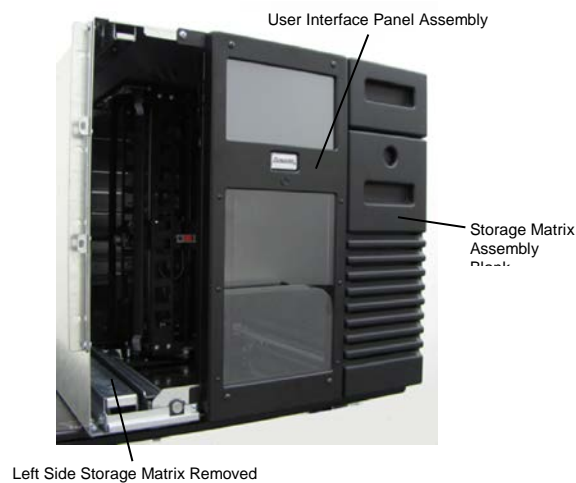

Figure 7-3 Storage Matrix Assembly Blank on front of RLS with Left Side Storage Matrix Removed
- Align the guide pin on the right side of the Storage Matrix Assembly Blank with the corresponding hole on the right side of the library, then position it against the front of the RLS. See Figure 7-3.